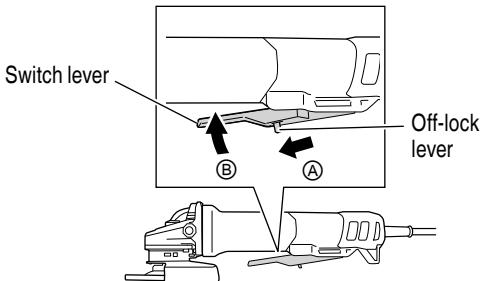

Fig. 3
2. Turn the grinder "on". (Fig. 3) To switch on, slide the off-lock lever in the direction of Ⓐ and press the switch lever (2 locations) in the direction of Ⓑ as shown in Fig. 3. Release the switch lever to switch off.